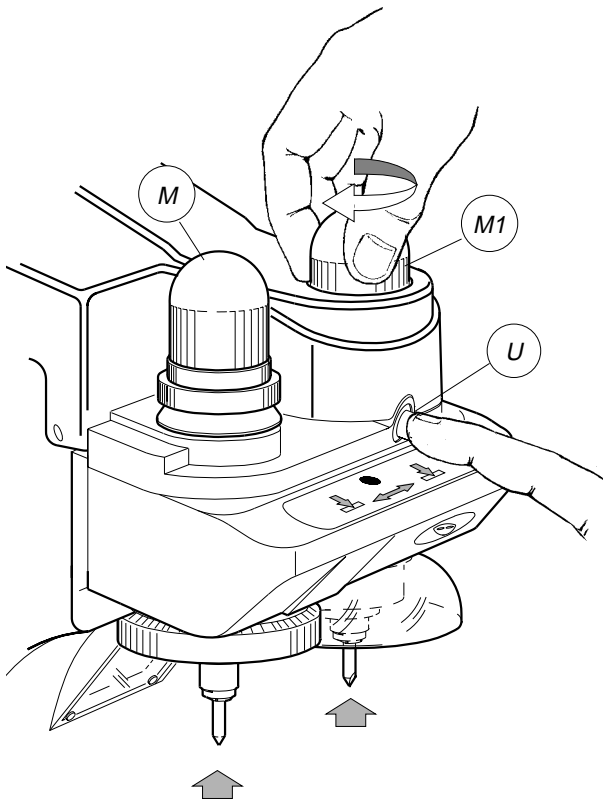

Fig. 15
1. place the tracer point all the way into the left-hand collet and secure with knob (M).
- push button (U) and turn knob (M1) (Fig.15) slowly until the spindle clicks into place, then lock the cutting tool by turning knob (M1).
- ▲ **WARNING:** do not exert strong pressure on knobs (M) and (M1) when locking the tools in.